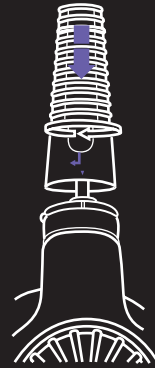

Figure 2.
1. Rotate the spray cup inversely (counterclockwise) as shown in Figure 2.